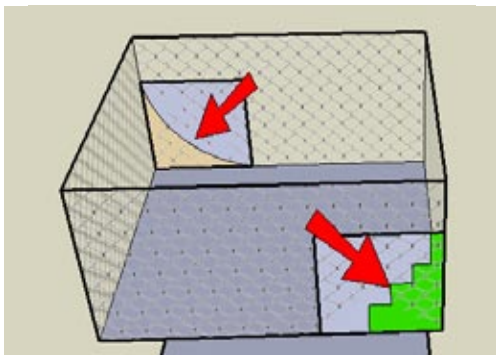

Figure 4-52
4. Using the faces of the box group to draw on, draw two identical rectangles in opposite corners on which to make the Follow Me faces. On one face, draw an arc section for the skate ramps (shown in Figure 4-52 in beige) and on the other, draw a section for steps (shown in green).